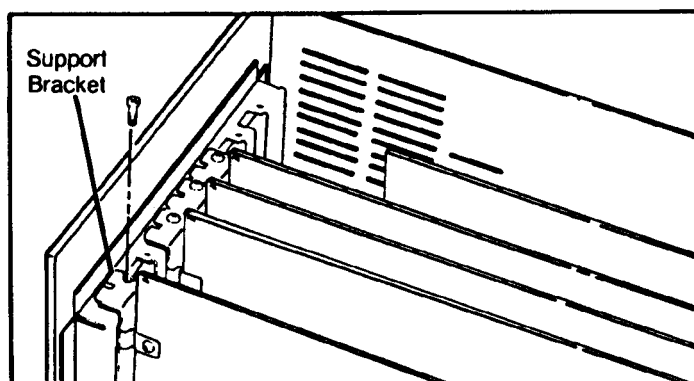

Figure 2-6. Replacing the Slot Cover Screw
3. With the slot cover screw, secure the support bracket of the interface card to the back panel of the computer, as shown in figure 2-6.